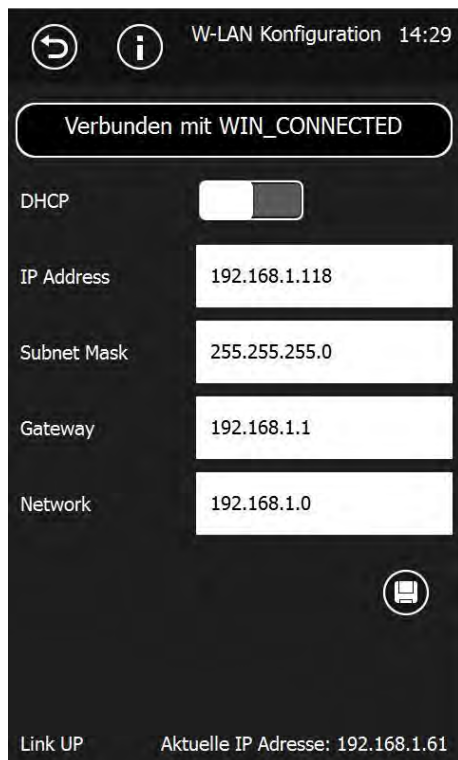

Fig. 11: WLAN configuration
8. Enter the values for (see *Fig. 11*)